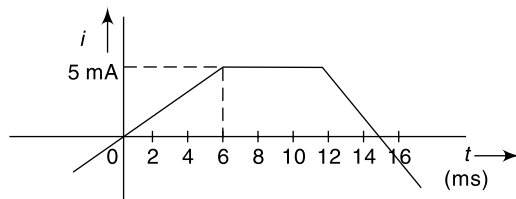

Fig. 14.12
14.18 The current waveform through a 0.5 H inductor is shown in Fig. 14.12. Calculate the voltage across the inductor at 0 ms, 8 ms and 14 ms.